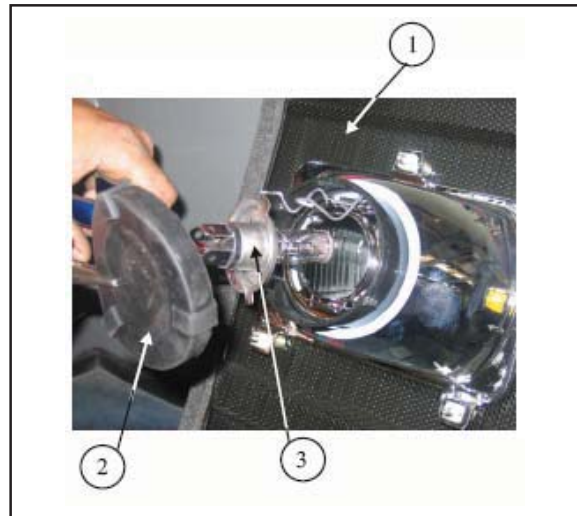

Fig.138
2. Remove the front grille (1, Fig. 138).
4. Remove the rubber surround (2).
5. Release the spring clip and remove the failed bulb (3).